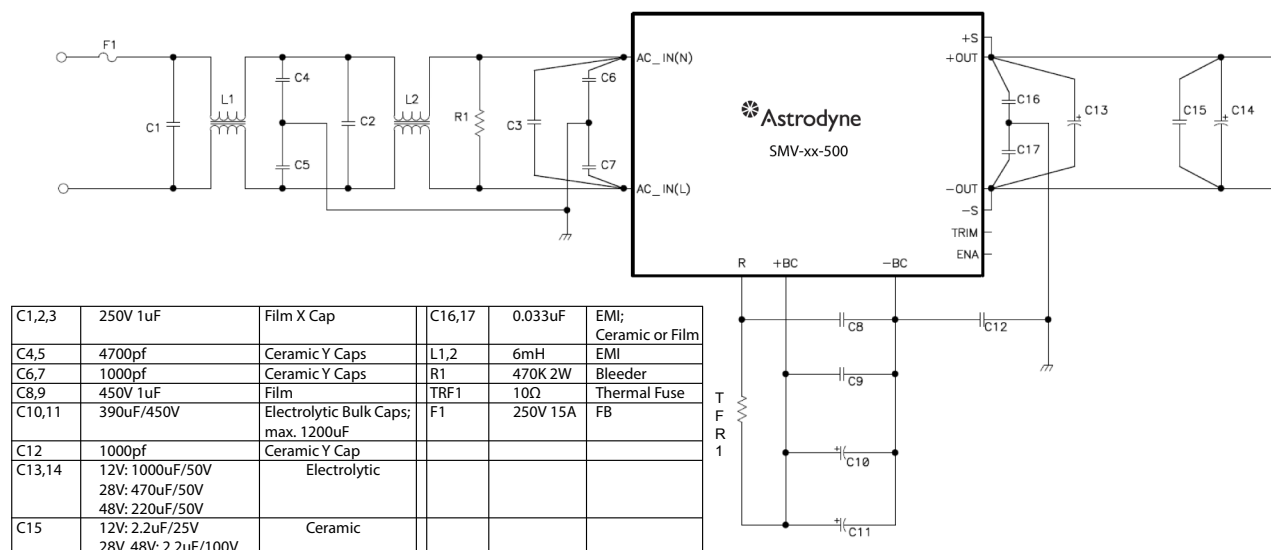

Fig. 3 Application Circuit.
Hold Up Time	20mSec. min. with Cap. 780uF (C10 & C11 in Fig.3)
3. Turn on @ 265V_{in}, External Components are needed for operation Refer to Fig. 3 for application circuit.
TFR1: 10 to 100Ω: By connecting a thermal fuse resistor across R and +BC terminals as shown in fig. 3, in-rush current during line throw-in can be suppressed. Failures due to in-rush current such as melting of external fuse, welding of relay or switch connecting joints or shutdown of No Fuse Breakers (NFB) can occur. Therefore, be sure to connect this external thermal fuse resistor. Note: This module will not operate without this external resistor.